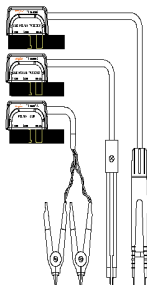
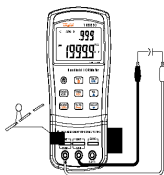
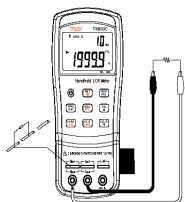

Figure 13- 4-terminal Test Accessories
Figure 14- Capacitance Measurement
Figure 15- Resistance Measurement
3. Insert an inductor into test slots or connect a tested inductor through a proper test accessory (e.g., banana plug-crocodile clip test leads, test fixture or SMD test tweezers). See figures 12. And figure 13 shows the optional 4-terminal test accessories.
3. Insert a capacitor into test slots or connect a tested capacitor through a proper test accessory (e.g., banana plug-crocodile clip test leads, test fixture or SMD test tweezers). See figure 14. And figure 13 shows the optional 4-terminal test accessories.
- banana plug-crocodile clip test leads, test fixture or SMD test tweezers). See figure 15. And figure 14 shows the optional 4-terminal test accessories.
3. Insert impedance (resistor, capacitor or inductor) into test slots or connect tested impedance through a proper test accessory (i.e., banana plug-crocodile clip test leads, test fixture or SMD test tweezers). Figure 13 shows the optional 4-terminal test accessories.